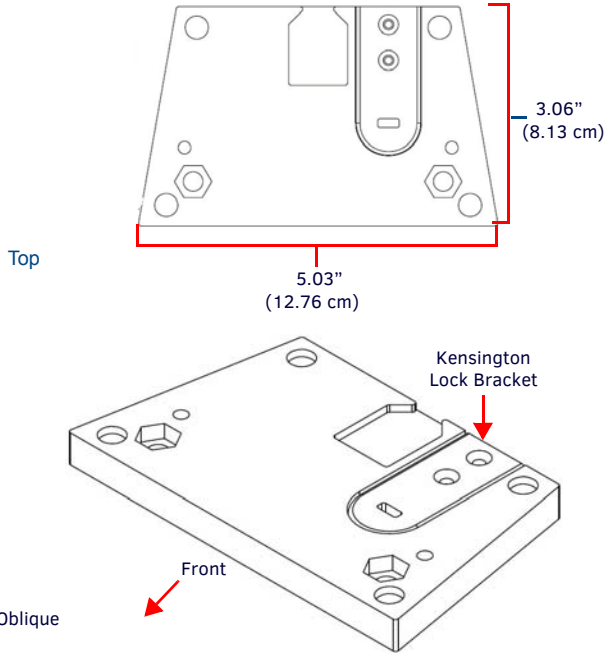
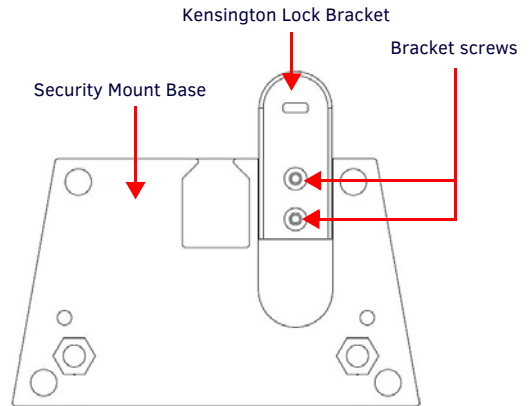

FIG. 1 MSA-STMK-43 SECURE TABLE MOUNT KIT
FIG. 6 KENSINGTON LOCK BRACKET INSTALLATION
The MSA-STMK-43 Secure Table Mount Kit (**FG2265-18**) is a beautifully styled plate that, when attached to the Modero S MST-431 4.3" Tabletop Touch Panel (**FG2265-06**) and secured with the under-table tamper-resistant bolts, will make it virtually theft-proof (FIG. 1). If drilling into the table is not feasible, the secure mounting plate can be attached to the touch panel (but not the table) and then secured with a Kensington® Lock. Both methods may be used simultaneously for extra security
- On the security mount base (FIG. 1), loosen the two screws holding the Kensington Lock bracket to the base (FIG. 6) and remove the bracket.
- Reverse the bracket in its slot so the rounded end faces outward (FIG. 6), and resecure it to the security mount base with the two bracket screws.